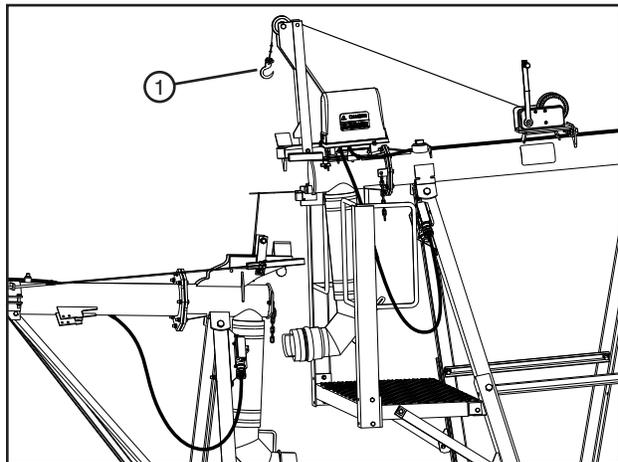

Figure 28-2 1. Cable up for Operation
17. Remove the cable from the dropped span. Rewind cable onto the winch. See Figure 28-2.